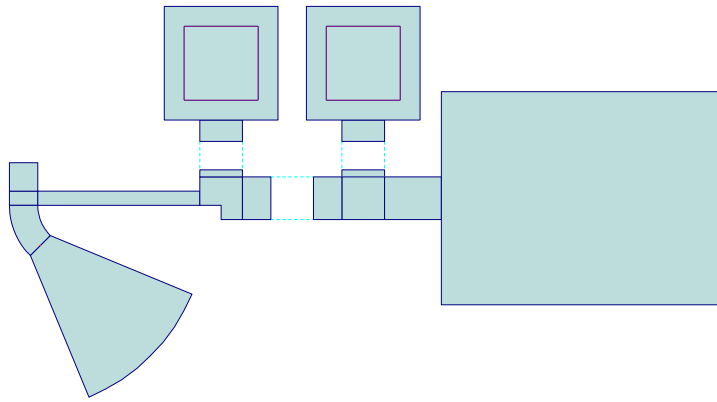

Figure 4: Layout of the base RF and DC bias circuitry. Connection to the base of the transistor is at the upper left. The DC connection is at the far right.
22. When you are satisfied with the tuning, complete the layout of your base circuit. Mine appeared as shown in Figure 4. You will notice that I represented the short high-impedance line with a microstrip bend **Elements** \Rightarrow **Microstrip** \Rightarrow **Bends** \Rightarrow **MCURVE**, this helped in the final layout of the completed oscillator, you may want to choose to do the same.